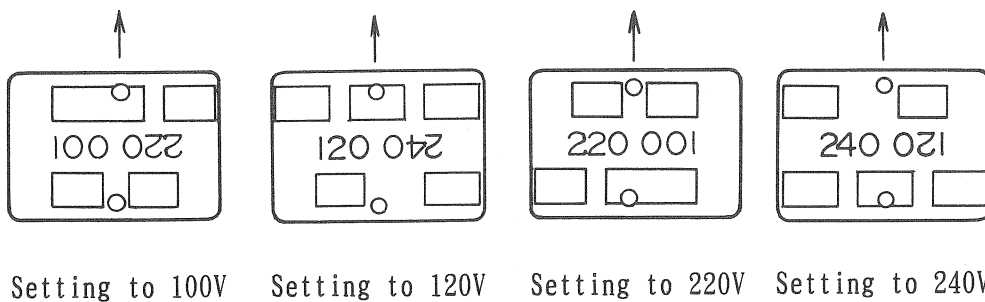

Fig. 8
- 3) Insert the print sheet so the digits indicating the altered voltage are visible. (Fig. 8)